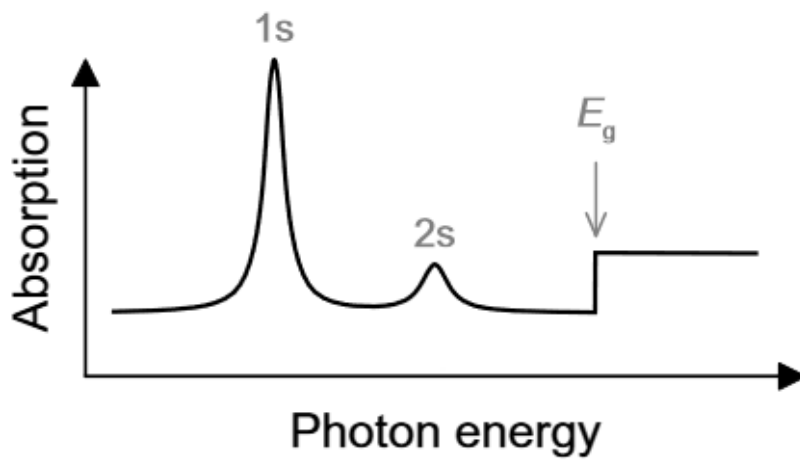

Fig. 3
- (e) Figure 3 schematically shows the optical absorption in a 2D semiconductor like black phosphorus. Explain the origin of the spectral features below the bandgap E_g . Why are they labelled 1s and 2s? [15%]